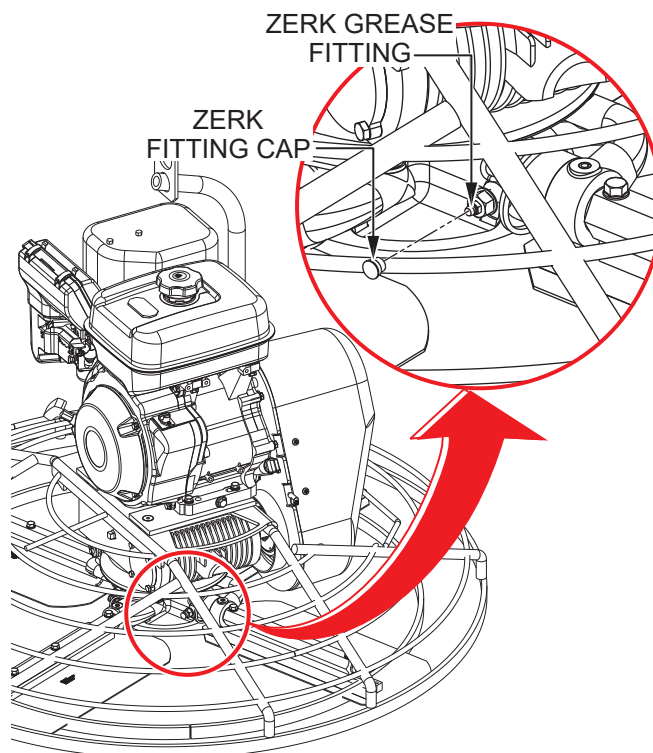

Figure 57. Spider Lubrication
1. Locate one of the Zerk grease fittings on the spider assembly (Figure 57). Remove the Zerk fitting cap and set it aside.